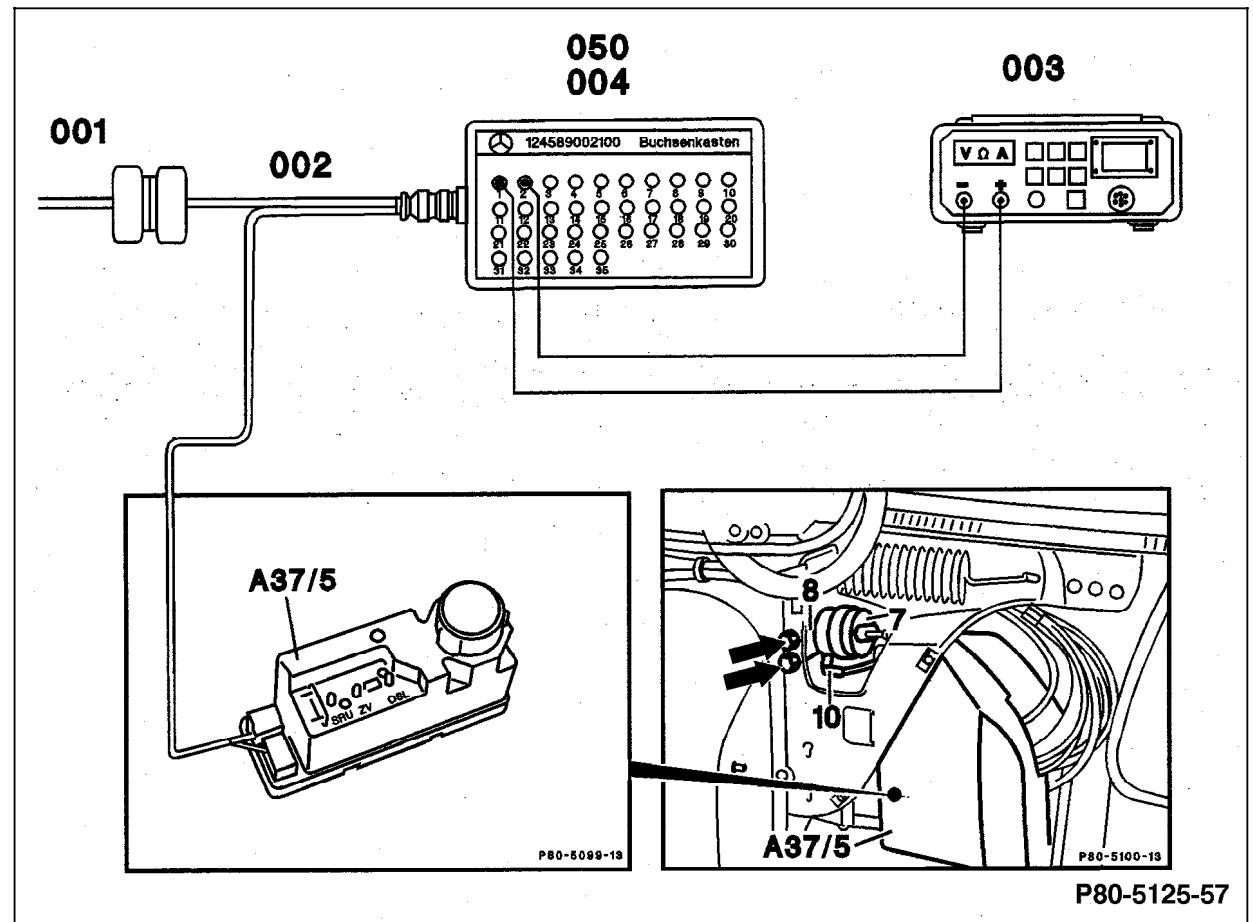

Figure 1
5. Connect socket box with test cable according to connection diagram, see 22, Figure 1.